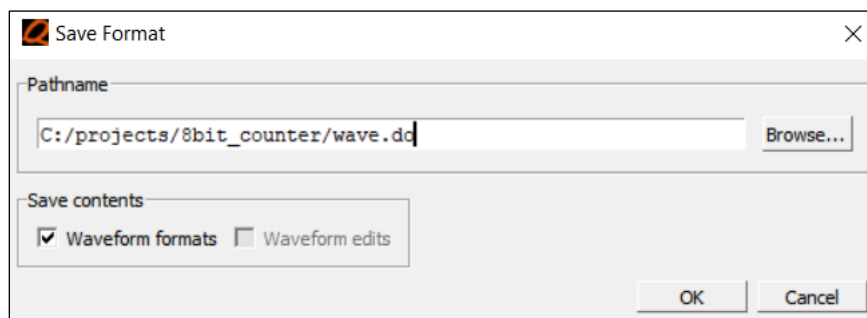

Figure 4.9. Save Waveform Display Format Window
1. Configure the waveform as shown in Figure 4.9.